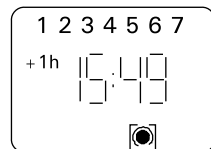

Figure 16.
2. A second press of the button **locks the ON function**. This function is denoted by the appearance of bracket symbols in the screen. This function cannot be removed other than by moving the function a step forward by means of the button. (Fig. 16)